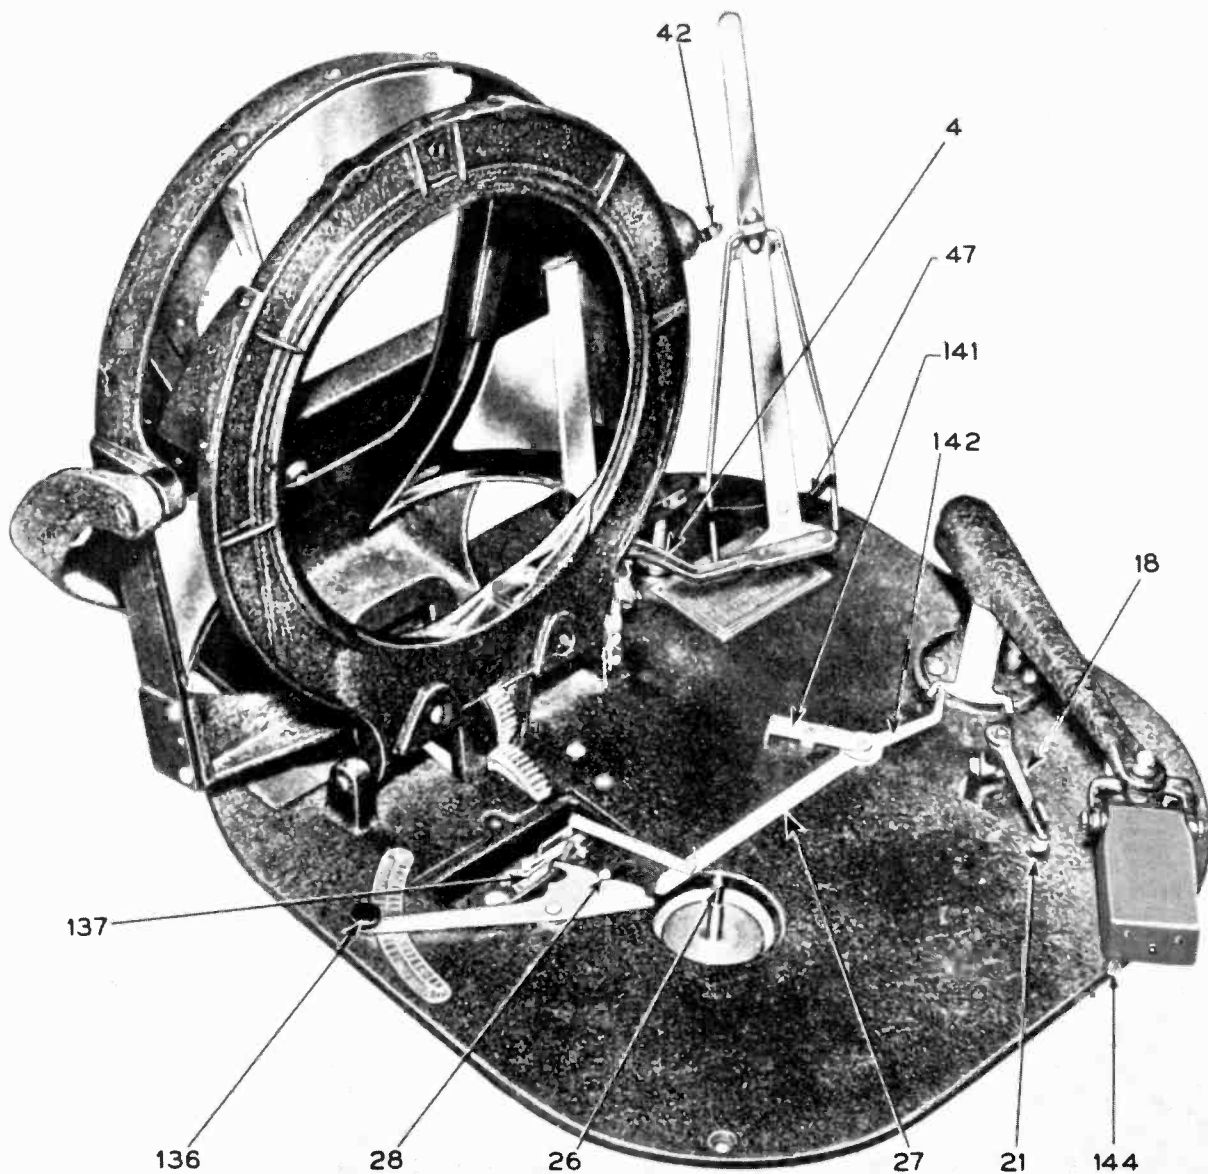

Fig. 8
26. TO ADJUST THE STOP TRIP SWITCH (137) (Fig. 8).
This switch is accessible by removing the turntable, which will expose the switch cover. To remove the switch cover it is necessary to remove the trip arm, which goes through the switch cover and the two flat head screws which hold the cover in place. The clearance between the contact points on the fixed and movable arms of the switch should be $\frac{1}{32}$ ". After replacing the trip arm (27) (Fig. 8) in the switch, after the switch cover has been removed, set the turntable on the spindle, push stop trip arm (142) (Fig. 8) slowly about $\frac{1}{4}$ " toward the magazine and then turn the turntable through
To adjust the clearance between the trip arm hook (27) (Fig. 8) and the moveable switch arm, loosen the screw in the bakelite switch base, at the end nearest the tone arm. Move the switch until $\frac{1}{32}$ " clearance is secured between the trip arm hook and the moveable arm of the switch, then tighten the screw holding the switch. In making this adjustment be sure that the stationary arm of the switch is not bent when tightening this screw.
The amount of friction necessary in the friction joint between the auto stop trip lever—long (27) (Fig. 8) and the auto stop trip lever—short (142) (Fig. 8) should be just sufficient to close the automatic stop trip switch (137) (Fig. 8). The friction is regulated by adjusting the screw which tightens the flat spring (141) (Fig. 8). If the tension is too great the instrument may trip before finishing a record, if not enough tension is had the instrument will not change records when the needle hits the automatic change groove.